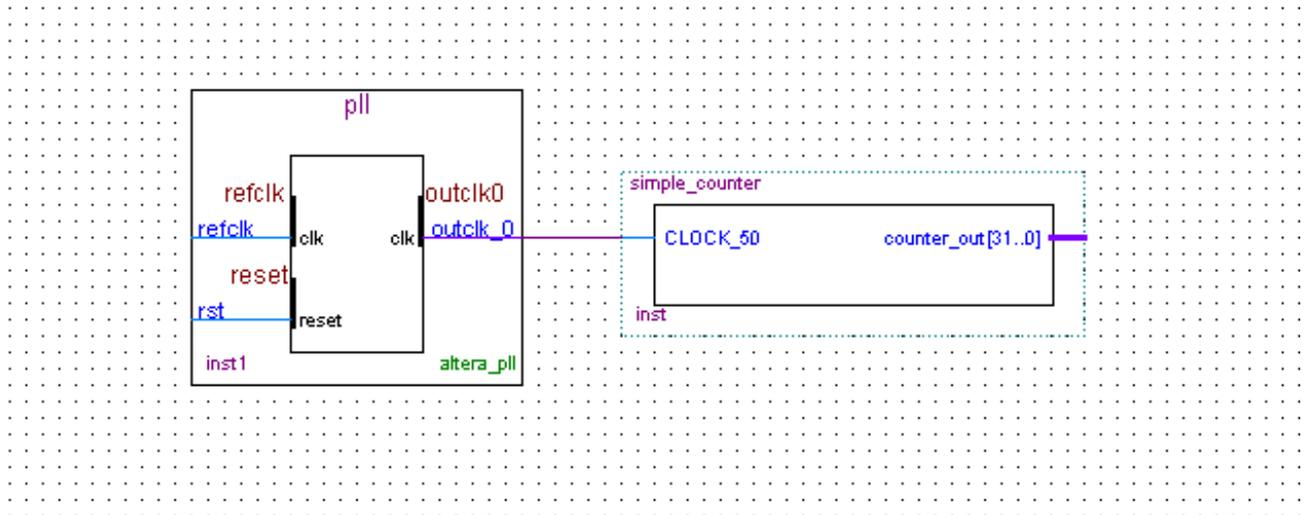

Figure 3-16 Draw a Bus Line connect pll outclk_0 port to simple_counter CLOCK_50 port
13. Click and drag a bus line from the outclk_0 output to the simple_counter clock input. This action ties the pll output to the simple_counter input (see Figure 3-16).